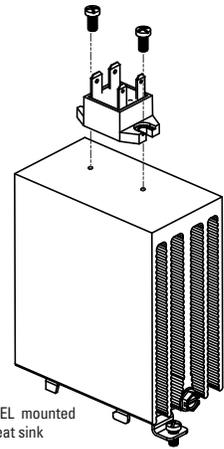

fig.1 EL mounted on heat sink
- EL mounting slots have a diameter of 0.16 in (4.0 mm). Two screws are needed (not included) to mount the EL onto heat sink (See fig. 1). Recommended screw size is 8-32 (UNC standard) or M4 (metric).